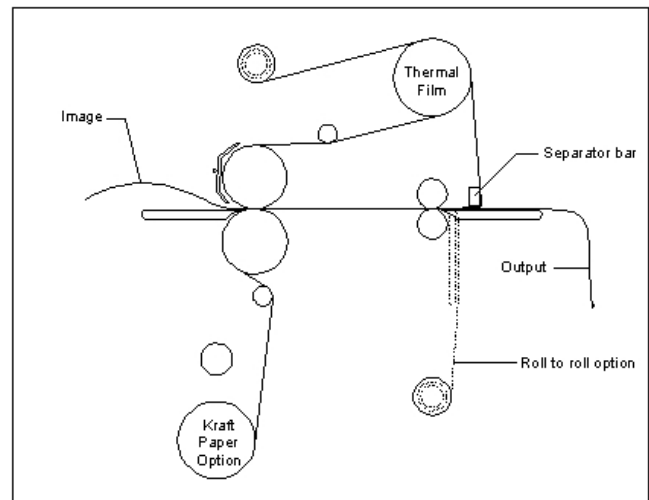

Fig 40
(Figure 40)**
1. Load the laminator as illustrated in Figure 40.